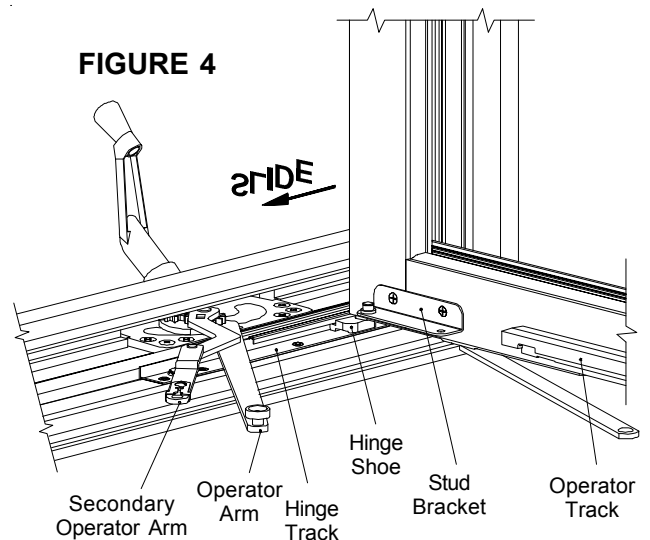

FIGURE 4
2. Crank open the sash and guide the operator arm to the notch indicated by the arrow on the operator track*. This will be approximately 45°. See figure 4 for parts identification.
8. Holding the sash firmly. Slide the sash towards the center of the frame to detach the Hinge Shoes from the Hinge Tracks. See Figure 4.